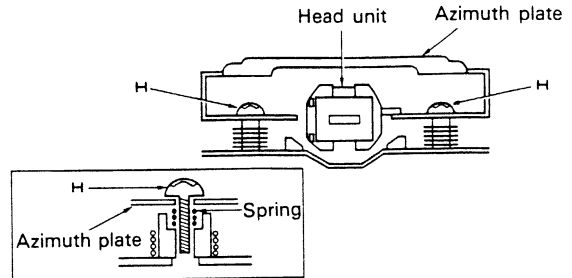

Fig. 7
2. Remove the two screws labeled "H," and remove the azimuth plate by pulling it forward (Figure 7). When removing the azimuth plate, take care not to lose the springs which are held under compression beneath that plate.